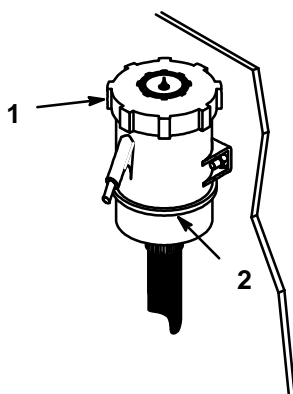

Figure 33
3. Clean around the fluid reservoir (Fig. 33) so level is clearly visible and so dirt cannot fall into the reservoir if fluid is added.
4. When transaxle is cold add oil to "Full Cold" line on reservoir (Fig. 33).